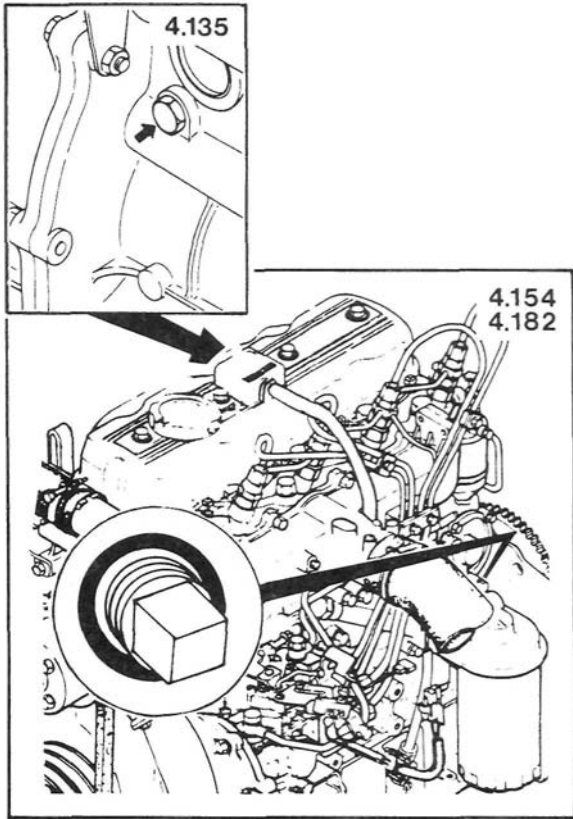

Fig. 3
3. Remove the drain plug from the side of the cylinder block (see Fig. 3) to drain the engine. Ensure that the drain hole does not have any restriction.